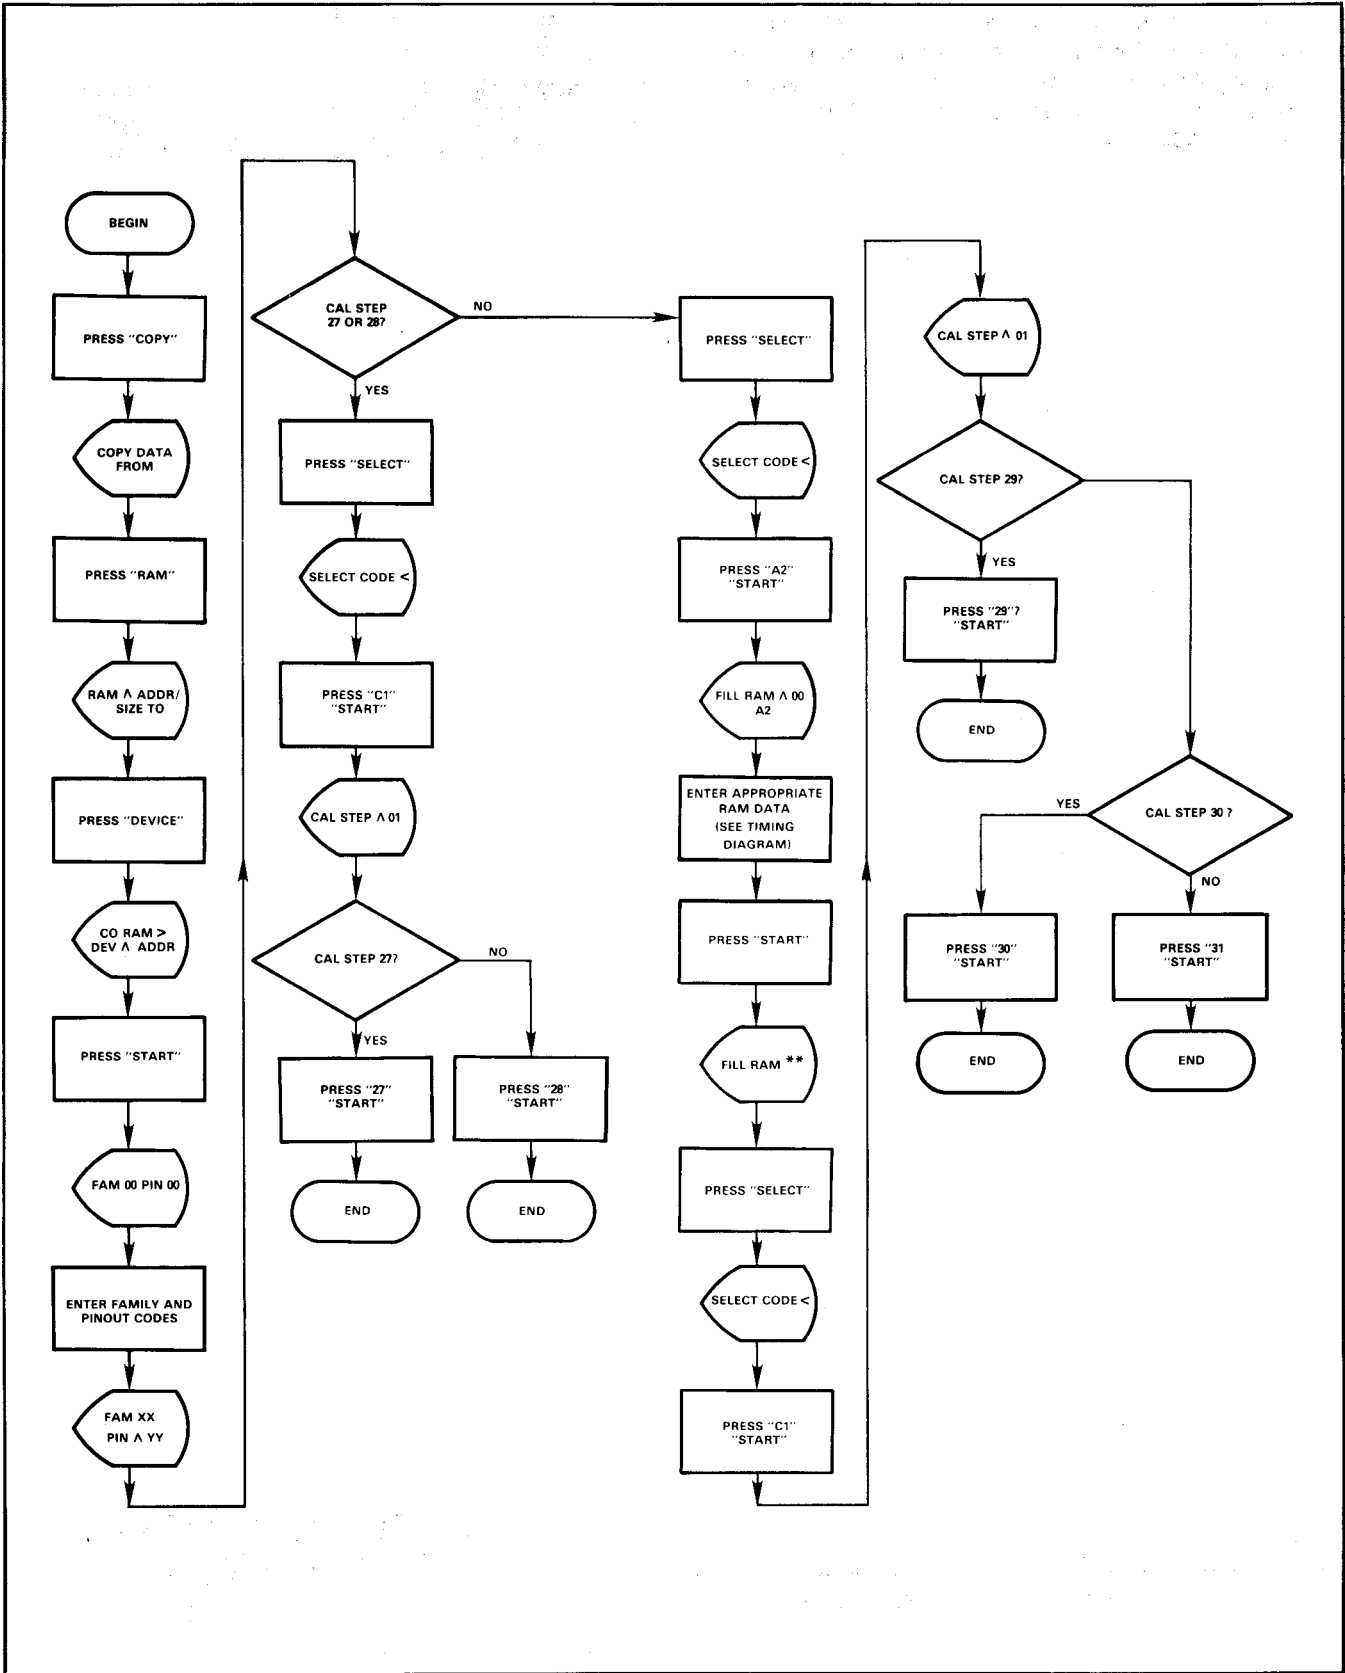

Figure 4-8. Accessing Calibration Steps 27, 28, 29, 30, 31 (29A Universal Programmer)
- Put the programmer back into the calibration mode; see figures 4-8, 4-9, and 4-10 for the key sequence.
5. Enter the waveform generation mode at step 27 on the measurement chart by following the key sequences listed in figure 4-8, 4-9, or 4-10, depending on your programmer.
6. Erase waveforms for EEPROMs are observable at step 30 or 31 of the measurement chart by following the key sequences listed in figure 4-8, 4-9 or 4-10, depending on your programmer.